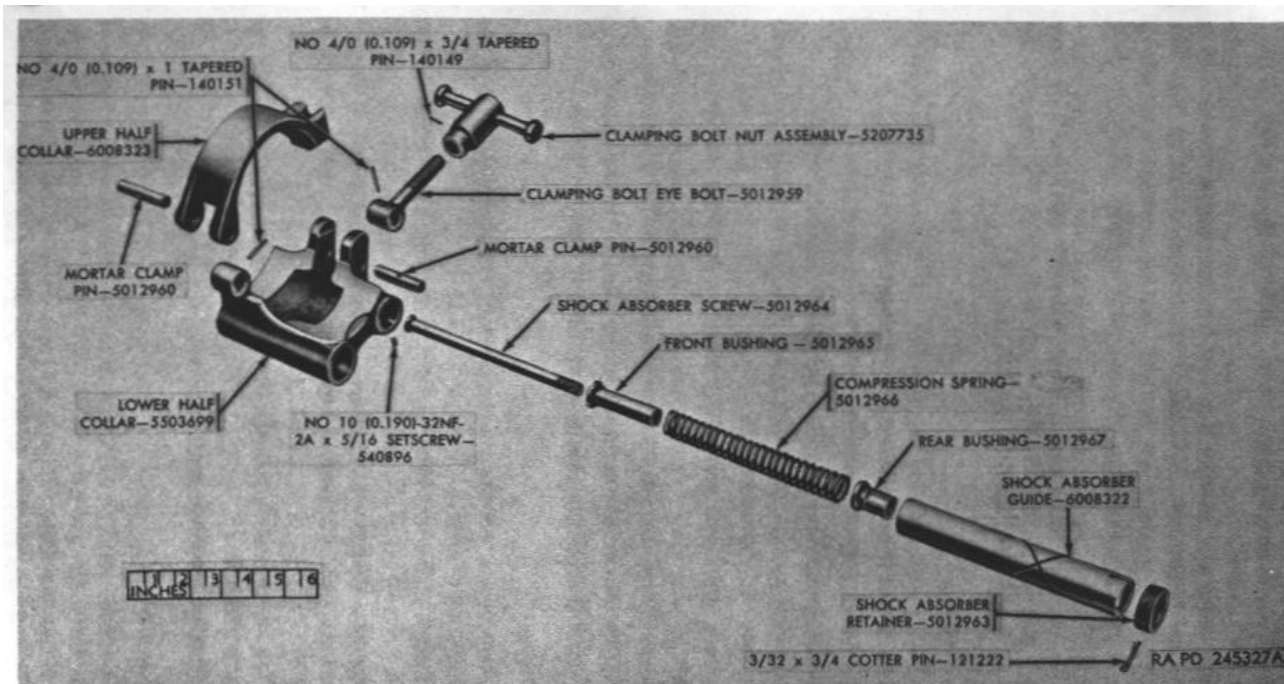

Figure 40. Shock absorbers and mortar clamp group-exploded view.
*c.* Remove cotter pin from bottom of shock absorber screw and back out the screw (fig. 40). Slide out shock absorber guide with front bushing, shock absorber spring, and rear bushing from lower half collar (fig. 40). Remove setscrew and unscrew shock absorber retainer from lower half collar (fig. 40) (mark to facilitate assembly).
e. To disassemble mortar clamp, proceed as outlined in (1) through (3) below.
- (1) Drive out tapered pin and remove mortar clamp pin to separate upper half collar from lower half collar (fig. 40).
- (2) Drive out tapered pin and remove mortar clamp pin to separate clamping bolt eye bolt and lower half collar (fig. 40).
- (3) Unscrew clamping bolt nut assembly until holes in body align with tapered pin in eye bolt, drive out pin, and unscrew clamping bolt eye bolt (fig. 40).
a. Assemble upper half collar to lower half collar by means of mortar clamp pin and drive in No. 4/0 (0.109) x 1 tapered pin (fig.40). Screw clamping bolt eye bolt into clamping bolt nut assembly until holes align and drive in No. 4/0 (0.109) x 8/4 tapered pin (fig.82)
40) Secure eyebolt to lower half collar by means of mortar clamp pin and drive in No. 4/0 (0.109) x 1 tapered pin (fig. 40).
b. Screw shock absorber retainer into pocket in lower half collar and secure with No. 10 (0.190) 32NF-2A x 5/16 setscrew (fig. 40). Slide shock absorber guide into pocket of lower half collar (fig. 40).
c. Insert into the shock absorber guide the rear bushing (small end leading), compression spring, front bushing (small end leading), and shock absorber screw (threaded end leading). Screw in screw and secure with 3/32 x 3/4 cotter pin (fig. 40).